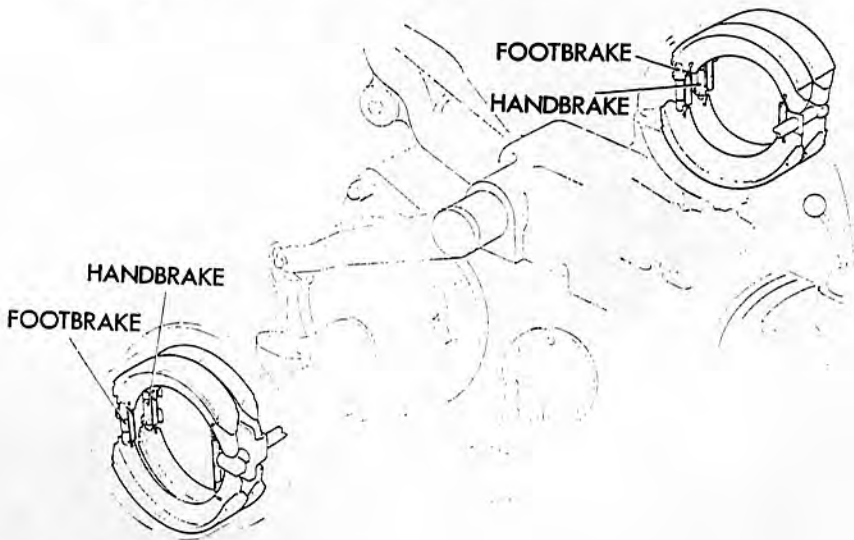

FIGURE 57 POSITION OF ADJUSTERS
4. Work spring (34) into the holes at the adjuster end of the shoes (from the underside) and pull the shoes apart to insert the adjuster (27). Correct position for adjusters is shown in Fig. 57.
6. Insert the operating shaft (18) between the anchor pins (20), place the distance pieces on the anchor pins.
7. Smear both ends of the new shoes, and the flat end of the operating shaft with Girling White Brake Grease. Fit green spring (21) to shoes, place washer (30) over anchor pins and fit shoes to anchor pins.
8. Replace bridge piece (22) and fit red springs (26) to shoes and anchor pins.
9. Replace adjuster end spring, black (28) pull shoe apart and insert adjuster (27). Ensure that the adjuster is correctly positioned (see Fig. 57).
10. Thread the four hold down pins (12) through the shoes from the handbrake side. Place over each pin a cup washer (23) and spring (24). Grip each pin in turn beneath the shoe web with pliers and on to the end of the pin fit a cup washer. When the spring is compressed turn the washer to lock it under the flattened end of the pin.